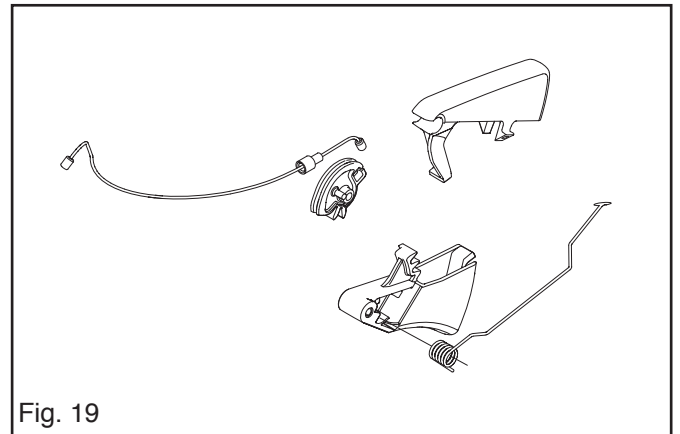

Fig. 19
Remove the throttle cable and lever. See fig. 19
2. That the lock activation mechanism is not worn. See fig. 19.